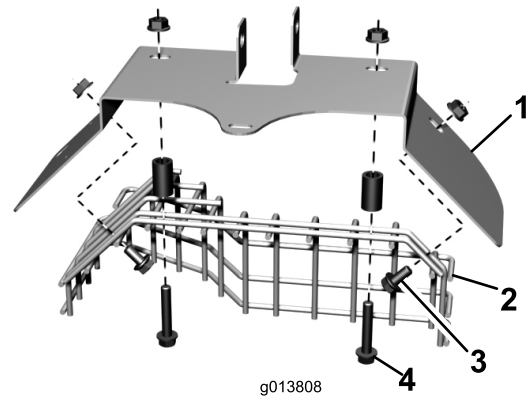

Figure 7
10. Using the top two holes, loosely mount the new muffler shield to the existing exhaust shield with two flange head bolts, spacers and flange nuts. Position the fasteners as shown in Figure 7.
11. Using the outer holes, loosely secure the muffler shield to the exhaust shield with the two flange head screws and flange nuts previously removed. Position the screws as shown in Figure 7. Tighten the fasteners securing the shields.